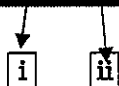

Fig.2-3
- 7) Unscrew the two screws **i** & **ii** from the **Lamp Cover** and remove the cover.(Fig.2-3)